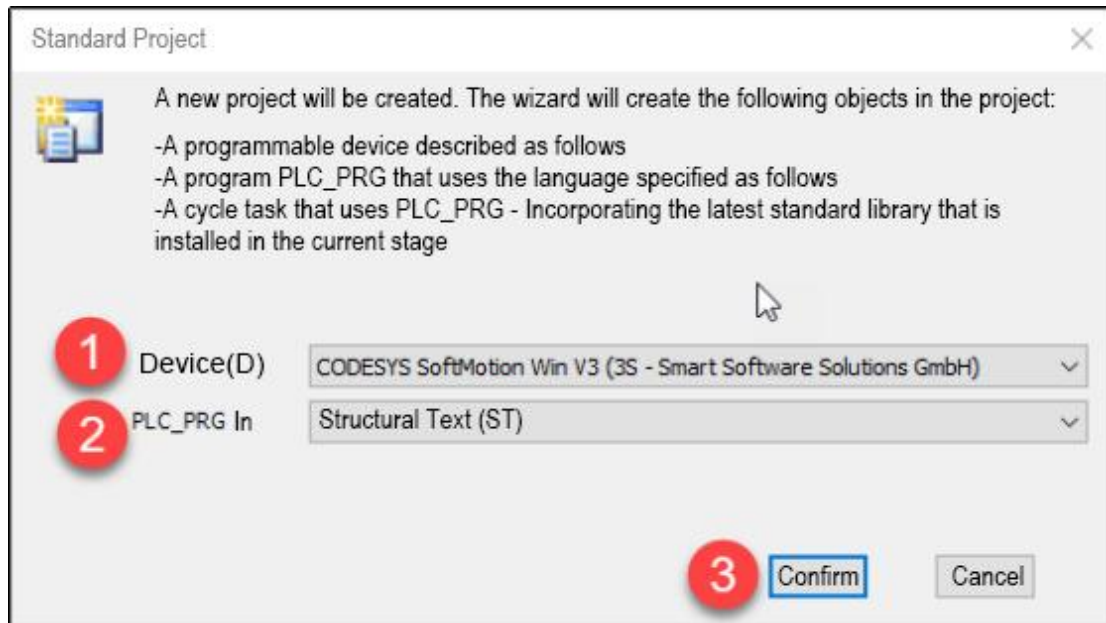

Figure 5-1-21 Selecting device and programming language
In the standard engineering window, select CODESYS SoftMotion Win V3 for device and Structured Text (ST) for PLC\_PRG programming language, as shown in Figure 5-1-21.